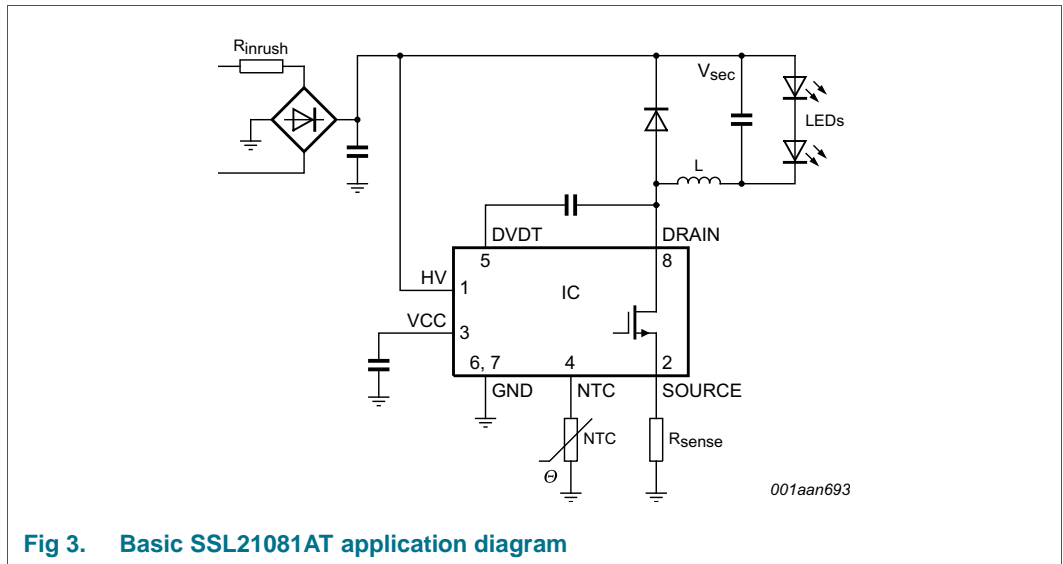
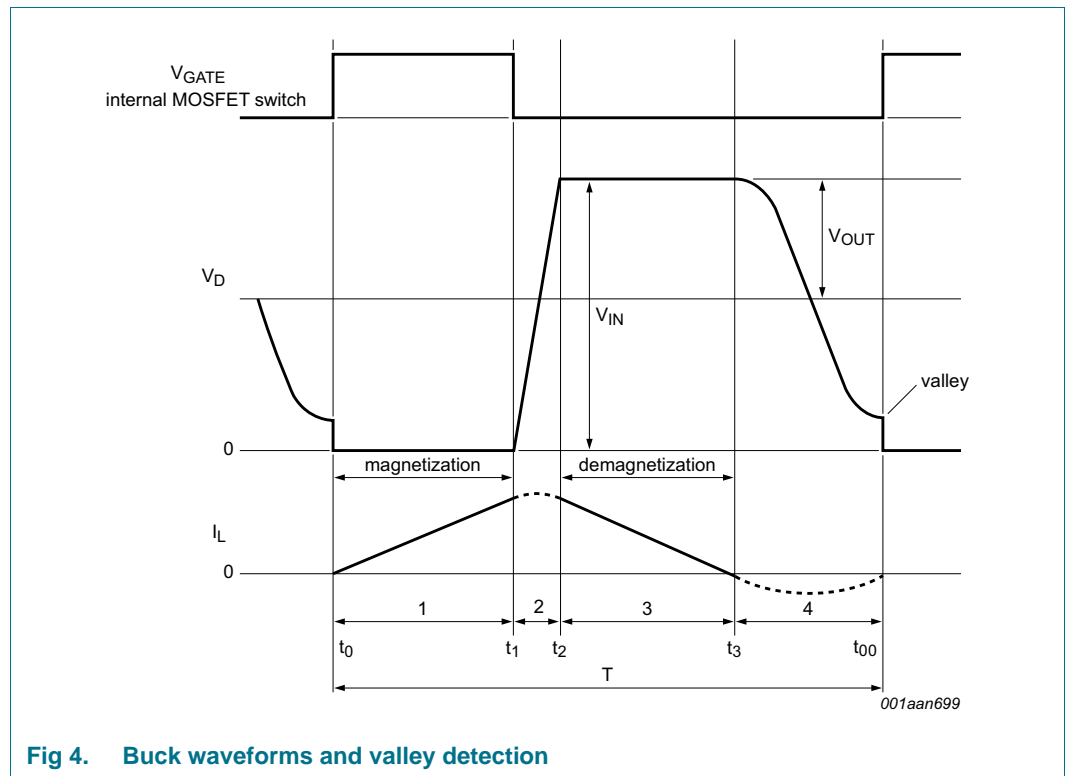

Fig 3. Basic SSL21081AT application diagram
Fig 4. Buck waveforms and valley detection
- Low component count LED driver solution (see Figure 3):
The converter in the SSL21081AT is a Boundary Conduction Mode (BCM), peak current controlled system. Figure 3 shows the basic application diagram. Figure 4 shows the waveforms. This converter type operates at the boundary between continuous and discontinuous mode. Energy is stored in inductor L each period that the switch is on. The inductor current I_L is zero when the internal MOSFET switch is switched on. Thereafter, the amplitude of the current build-up in L is proportional to $V_{IN} - V_{OUT}$ and the time that the internal MOSFET switch is on. When the internal MOSFET switch is switched off, the current continues to flow through the freewheel diode and the output capacitor. The current then falls at a rate proportional to the value of V_{OUT} . The LED current I_{LED} is almost equal to half the peak switch current. As soon as the inductor current I_L is zero, a new cycle is started.
A new cycle is started when the primary switch is switched on (see Figure 4). Following time t_1 , when the peak current is detected on the SOURCE pin, the switch is turned off and the secondary stroke starts (3). When the secondary stroke is complete and the coil current at t_3 equals zero, the drain voltage starts to oscillate around the $V_{IN} - V_{OUT}$ level. The amplitude equals V_{OUT} . A special feature, called valley detection is an integrated part of the SSL21081AT circuitry. Dedicated built-in circuitry connected to the DRAIN pin, senses when the voltage on the drain of the switch has reached its lowest value. The next cycle is then started and as a result the capacitive switching losses are reduced.